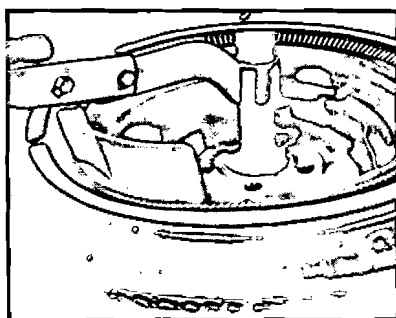

FIG. 2—Breaking Top Bead of Tire From Wheel Rim
3. Remove the grease cap from the hub. Remove the cotter pin, nut lock, adjusting nut, and flat washer from the spindle; then, remove the outer bearing cone and roller assembly, (Fig. 2).
3. Unseat the beads of tire with the bead breakers away from the valve stem as shown in Fig. 2.